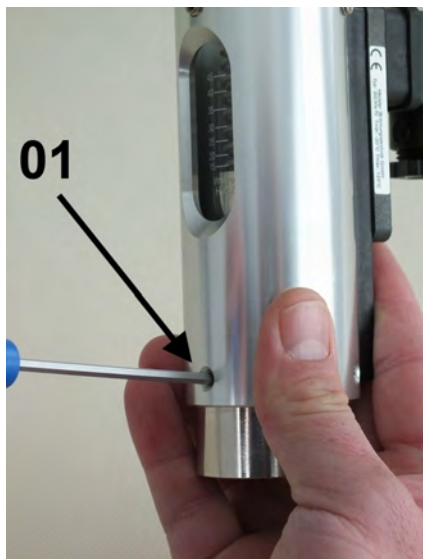

Fig. 46: Secure the process connection (inlet)
- 9.** ➤ Secure the inlet process connection to the device housing with 3 hex socket screws (Fig. 46/1), observing the proper torque.